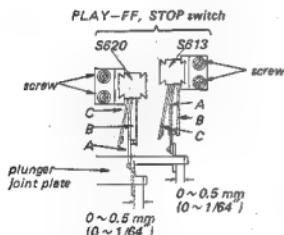

Fig. 3-22. PLAY-FF, STOP switch (S613, 620) position adjustment
1. Place the unit in the STOP mode. See Fig. 3-22. Make sure that the distance between the plunger joint plate and the leaf A of the leaf switch is 0 to 0.5 mm (1/16"), and also that the leaves A and B are in contact with each other completely. If necessary, adjust the switch position by loosening the screws.